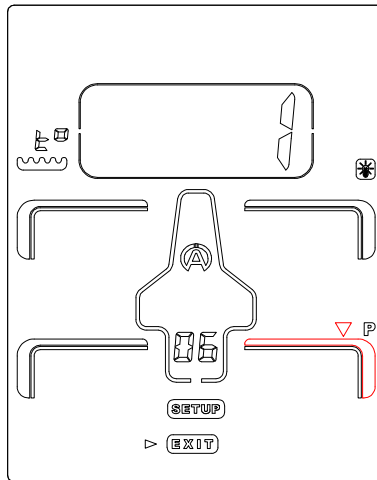

Figure 18
- 4) Press the central button **Ok** to confirm your choice (figure 18).
After confirmation, the icon « P » selected freezes, the number 1 show off in the « CADRAN ». Then, another icon appears automatically, blinking, (red arrow, figure 18). If the place of the second capture doesn't suit you, same thing, repeat the operations as explained above (figure 19).